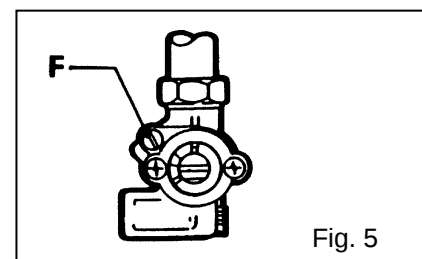

Fig. 5
5.3 Regulating the reduced capacity (Fig. 5)